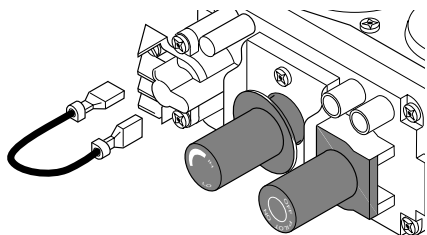

Figure 26 - Disconnecting Wires From Control Valve
1. Disconnect wires from the control valve (see Figure 26) .
1. Remove jumper wire from control valve (see Figure 26, page 17).